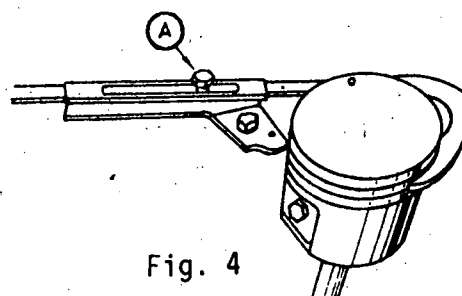

Fig. 4
Piston Groove Cleaner. These are generally used when the pistons are being dealt with and when the rings are being dismounted. The tool consists of scrapers of different sizes for adapting to the grooves; the tool is installed bringing the appropriate scraper into contact with the groove and is secured with the screw (A) (fig. 4). It is then rotated to remove the carbon deposits. This operation is repeated with the remaining grooves, taking care not to remove any metal shavings from the piston which may alter the dimensions of the grooves.